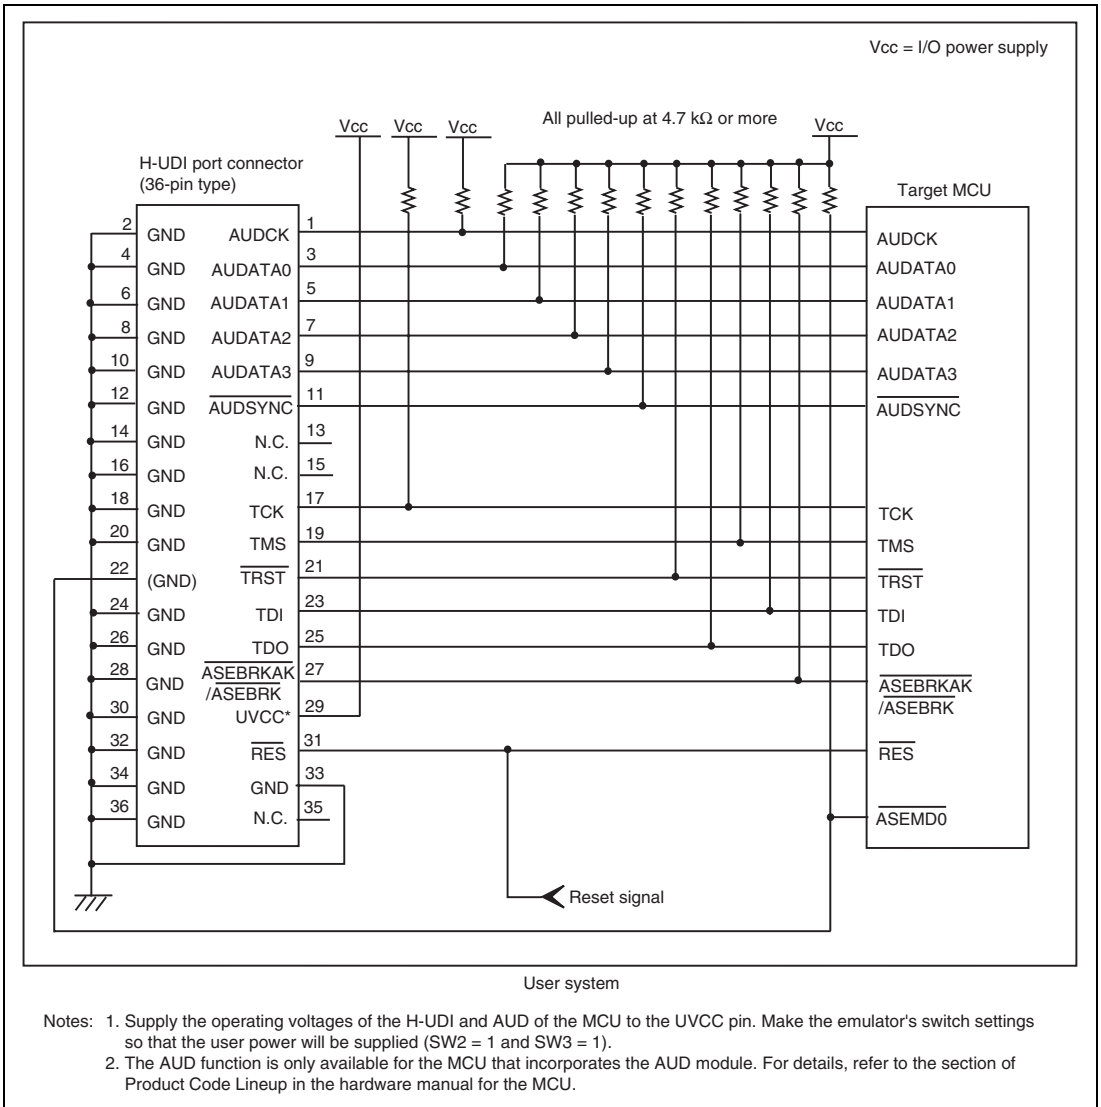

Figure 1.3 Recommended Circuit for Connection between the H-UDI Port Connector and MCU when the Emulator is in Use (36-Pin Type)
Figure 1.3 shows a recommended circuit for connection between the H-UDI and AUD port connectors (36 pins) and the MCU when the emulator is in use.
- (1) When the emulator is used: `_ASEMD0 = 0`
- (2) When the emulator is not used: `_ASEMD0 = 1`Figure 1.3 shows an example of circuits that allow the `_ASEMD0` pin to be GND (0) whenever the emulator is connected by using the user system interface cable. When the `_ASEMD0` pin is changed by switches, etc., ground pin 22. Do not connect this pin to the `_ASEMD` pin.
7. The resistance value shown in figure 1.3 is for reference.
When the circuit is connected as shown in figure 1.3, the switches of the emulator are set as SW2 = 1 and SW3 = 1. For details, refer to section 3.8, Setting the DIP Switches, in the SuperH™ Family E10A-USB Emulator User's Manual.